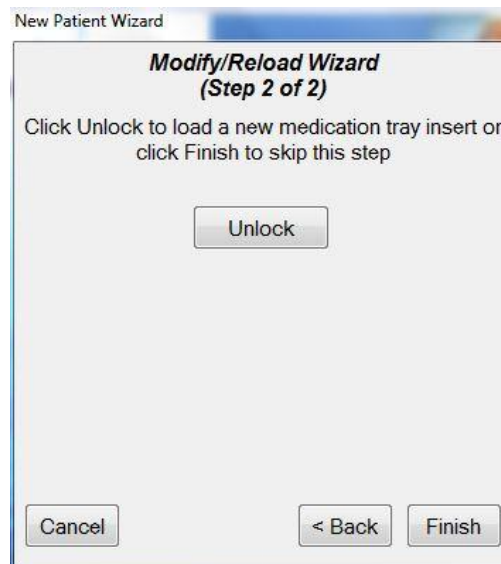

Figure 22: Modify/Reload Wizard: Reload Medication Tray by selecting Unlock.
5. Select **Unlock** on the screen and the MOD[®] cover unlocks and opens, giving you access to the Medication Tray Insert (Figure 22).
9. Select **Finish** on the screen which says **Modify/Reload Wizard Step 2 of 2** (Figure 22) to return to the main menu of programming icons.